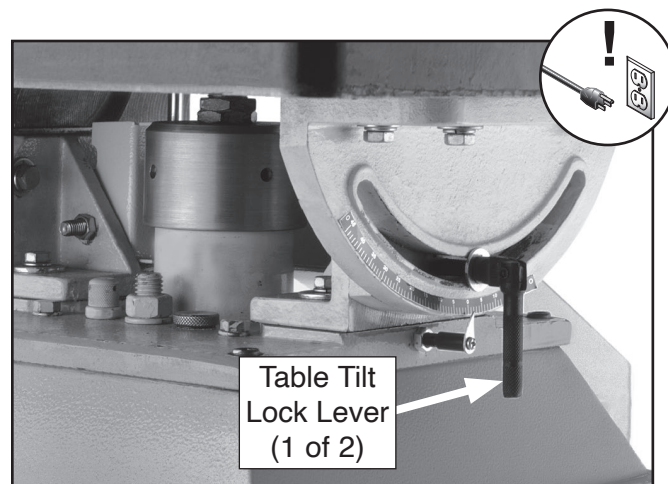

Figure 35. Location of table tilt lock lever.
- Loosen both table lock levers and adjust table to desired angle, then tighten both levers to secure it (see **Figure 35**).